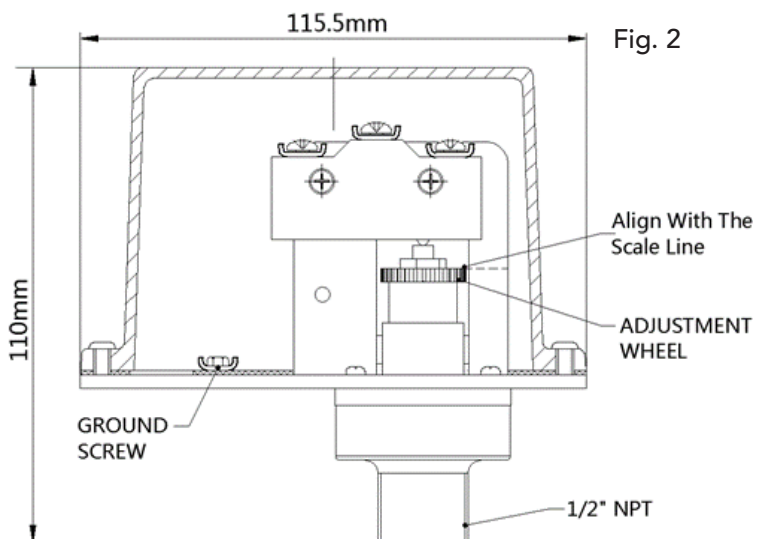

Fig. 2
1. The device should be mounted in the upright position. Locate it where vibration, shock, and mechanical loading are minimal. The overall dimensions see fig. 2.